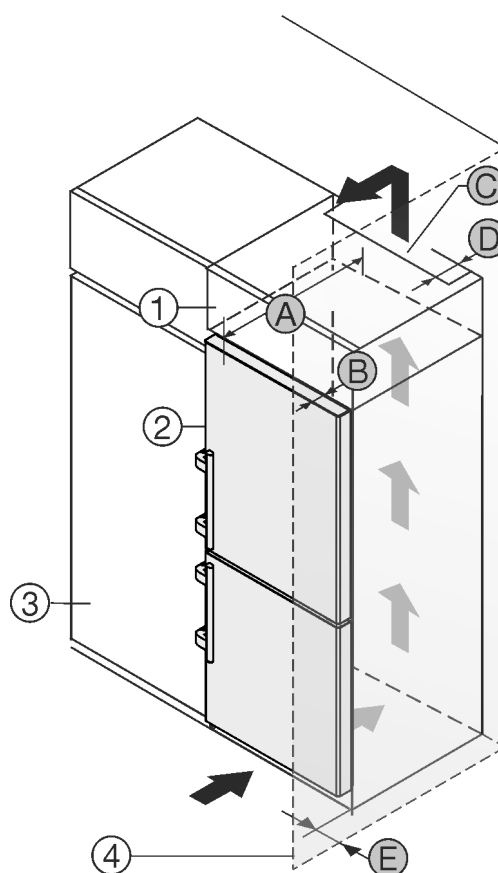

Fig. 26
The appliance can be built into kitchen units. A top cupboard *Fig. 26 (2)* can be added above the appliance in order to bring the appliance *Fig. 26 (1)* up to the height of the fitted kitchen units.
The appliance can be installed right next to the kitchen cabinet *Fig. 26 (3)*. The appliance must protrude by depth *Fig. 26 (B)* from the front of the cabinet so that the doors can be opened fully. The appliance may protrude further depending on the depth of the kitchen cabinets and whether wall spacers are used.
- At the back of the top cabinet, there must be an air outlet shaft with depth *Fig. 26 (D)*, spanning the entire width.
- The ventilation shaft *Fig. 26 (C)* must be observed under the ceiling.
If the appliance is installed with the hinges next to a wall *Fig. 26 (4)*, the distance *Fig. 26 (E)* between the appliance and the wall must be observed. This is how far the handle protrudes when the door is open.